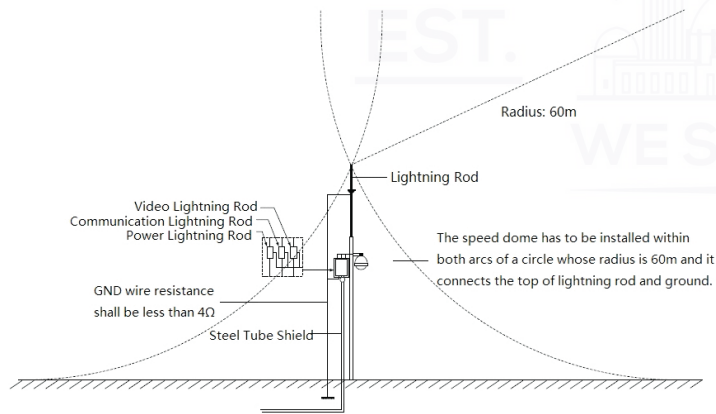

Figure 7-1
- System shall adopt equal-potential wiring. The earth device shall meet anti-jamming and at the same time conforms to your local electrical safety code. The earth device shall not short circuit to N (neutral) line of high voltage power grid or mixed with other wires. When connect the system to the earth alone, the earth resistance shall not be more than $4\ \Omega$ and earth cable cross-sectional area shall be below $25^2\ \text{mm}^2$. See Figure 7-1.